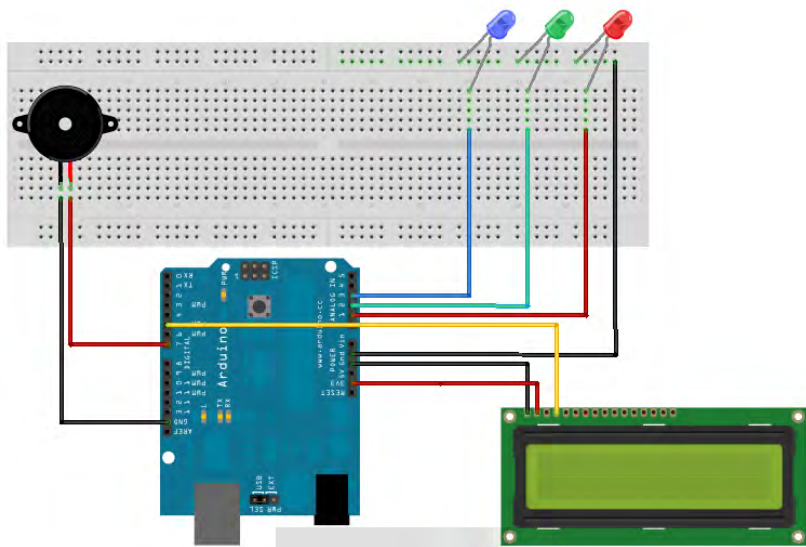

Figure 5-3. *Step three.*
3. Connect the LCD unit to Arduino (Figure 5-3). The data line connects to Arduino digital pin 5, the power line connects to Arduino 3.3 v pin, and GND line connects to GND.